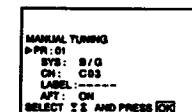

Fig. 11
- 3 Select "MANUAL TUNING" with  $\Delta$  or  $\nabla$  and press OK. The MANUAL TUNING menu appears. (See Fig. 11.)